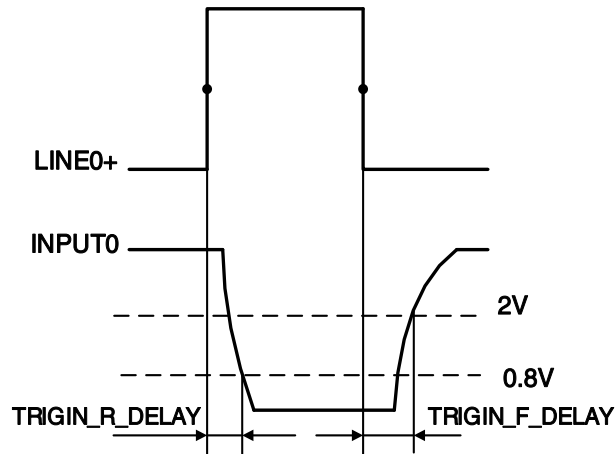

Figure 7-4 Parameter of opto-isolated input circuit
- Rising edge delay:  $<50\mu\text{s}$  ( $0^{\circ}\text{C}\sim 45^{\circ}\text{C}$ ), parameter description as shown in Figure 7-4
- Falling edge delay:  $<50\mu\text{s}$  ( $0^{\circ}\text{C}\sim 45^{\circ}\text{C}$ ), parameter description as shown in Figure 7-4